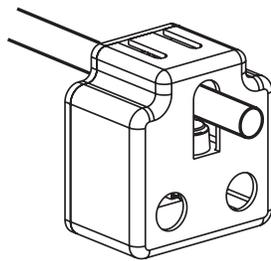

Fig. 7
7a. Overhead Assembly: Fig. 11: Adjust overhead to appropriate dimension. Install (4) 3/8"-16NC x 3/4" HHCS & 3/8"-16NC Flanged Locknuts, do not tighten. Slide Switch Box over switch bar ensuring knock out holes face the power unit column. Use (2) 1/4"-20NC x 3/4" lg. HHCS, 1/4"-20NC Nuts and 1/4" Star Washers to mount switch box to overhead, see Fig. 7. For SPOA10 Extra Narrow Bay Setting installation, see step 7b, all others go to step 7c. 7b. For Extra Narrow Bay installation only: Cut off 11" (279mm) from the length of the bar and cushion on the end opposite the 1/4" mounting hole(s). Continue to step 7c.